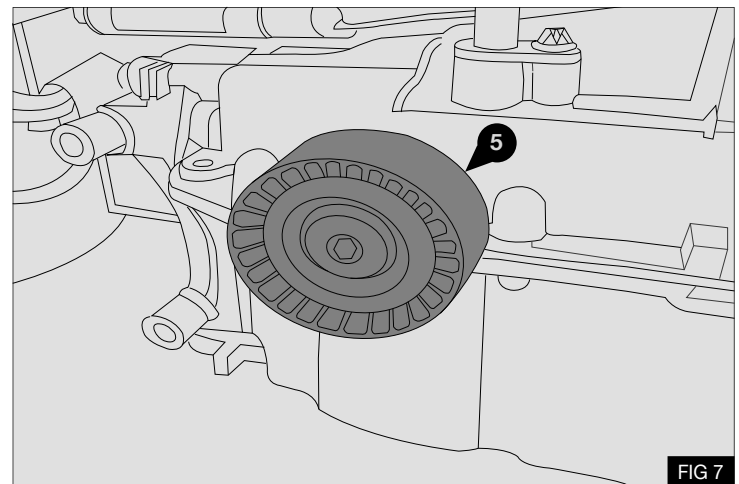

FIG 7
2. Using the supplied pulley (5) cut a thread into the hole in the sump in position shown - Fig 7.
3. Remove the pulley (5).